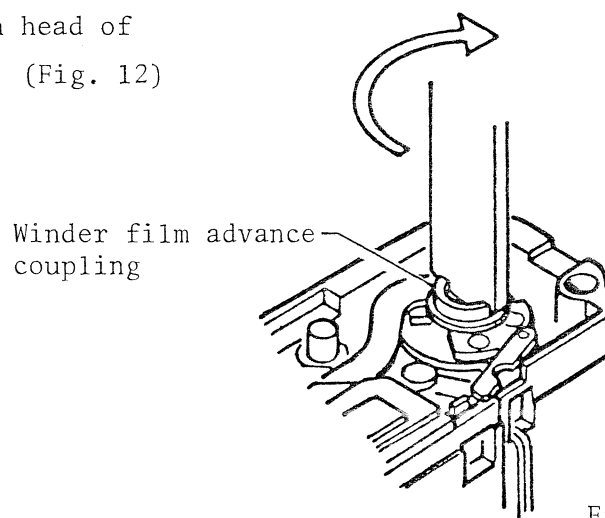

Fig.12
3. Rotate the winder film advance coupling clockwise until it stops with head of a pair of tweezers or a coin. (Fig. 12)